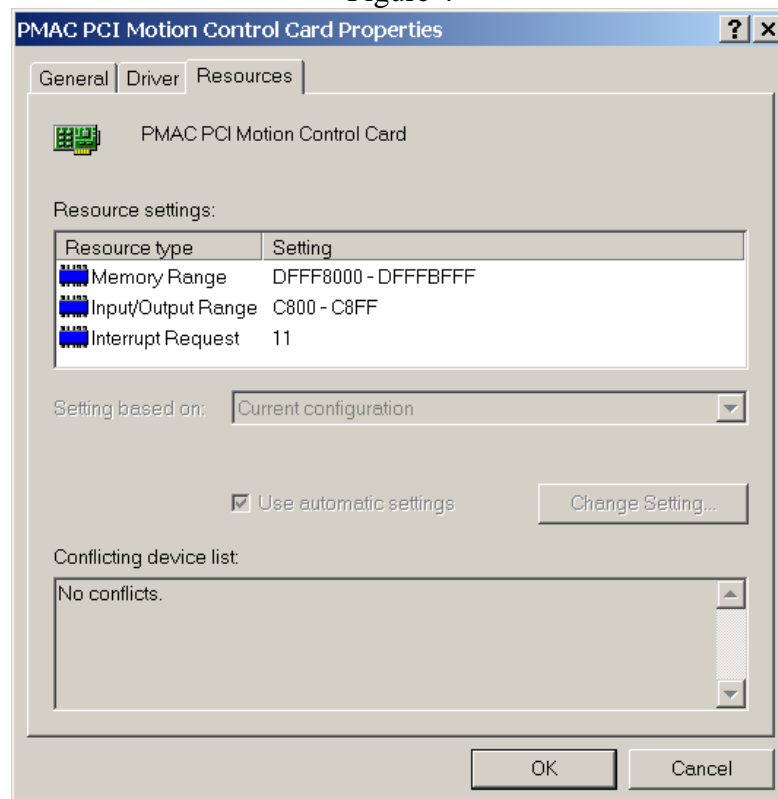

Figure 5
5. In the "PMAC PCI Motion Controller Card properties" window, select the resource tab. From the resource settings, the beginning value for the input/output range is the Base I/O Address Figure 5. In figure 5, the base I/O address is 0xC800 (notice that the value is always a hex number). The parameter must always be entered as a single quotation text string. For example: '0xC800'.